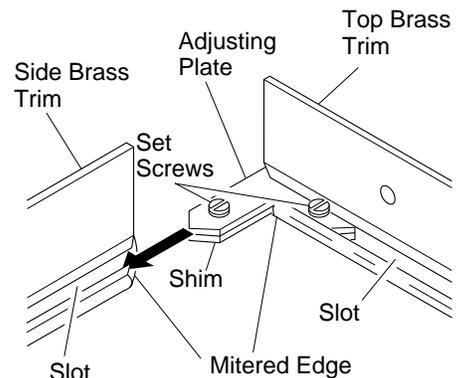

Figure 5 - Assembling Brass Trim
5. Slide other end of adjusting plate/shim in slot on mitered edge of side brass trim (see Figure 5).
4. Slide one end of adjusting plate/shim in slot on mitered edge of top brass trim (see Figure 5).